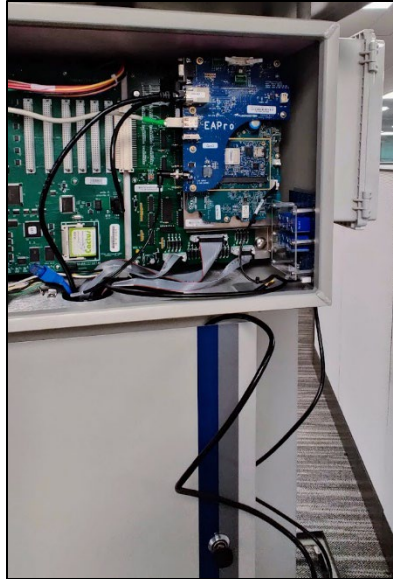

Figure 8 Running the MDU Serial or Ethernet Cable
2. Run the Serial or Ethernet cable up through the FMU cabinet and into the head such that you can close the door to keep a weathertight seal (Figure 8).